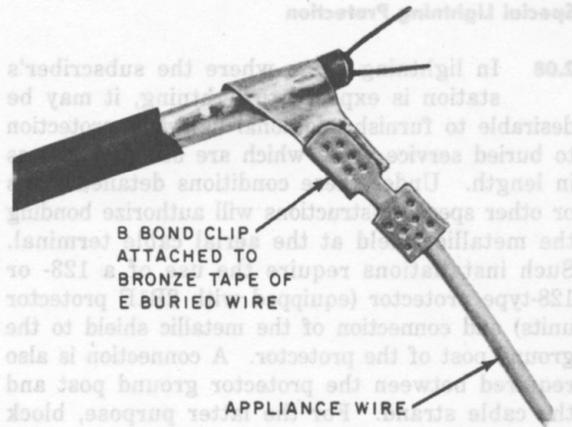

Fig. 4—Bonded Shield of E Buried Wire
2.05 Where the buried wire is over 500 feet in length, the metallic shield of the E buried wire must be bonded to the cable terminal. A B bond clip and B appliance wire are installed on the metallic shield in a solderless connector as shown in Fig. 4.